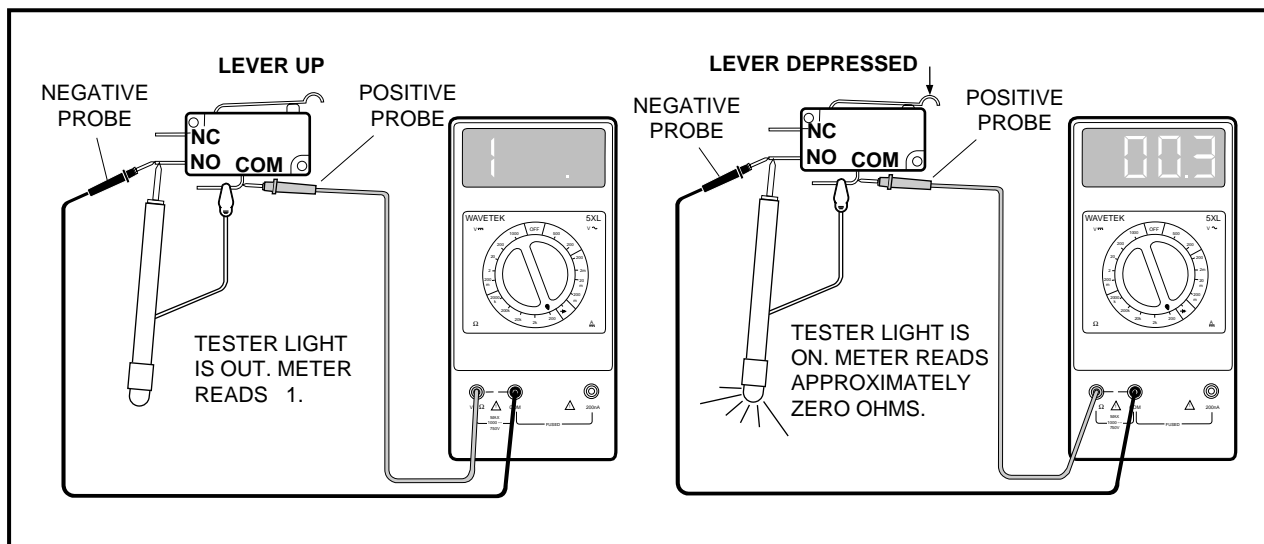

Figure 11-32 Test Lockout Cam Limit Switch
3. Set the multimeter to 200 Ω (ohms). Place the red (+) probe of the multimeter on the common (COM) terminal of the limit switch. Place the black (-) probe on the normally open (NO) terminal of the switch. Without the lever depressed, the reading should be **NO** continuity. Depress the lever, and the reading should be continuity. If either reading is incorrect, replace the limit switch (**Figure 11-32, Page 11-28**).